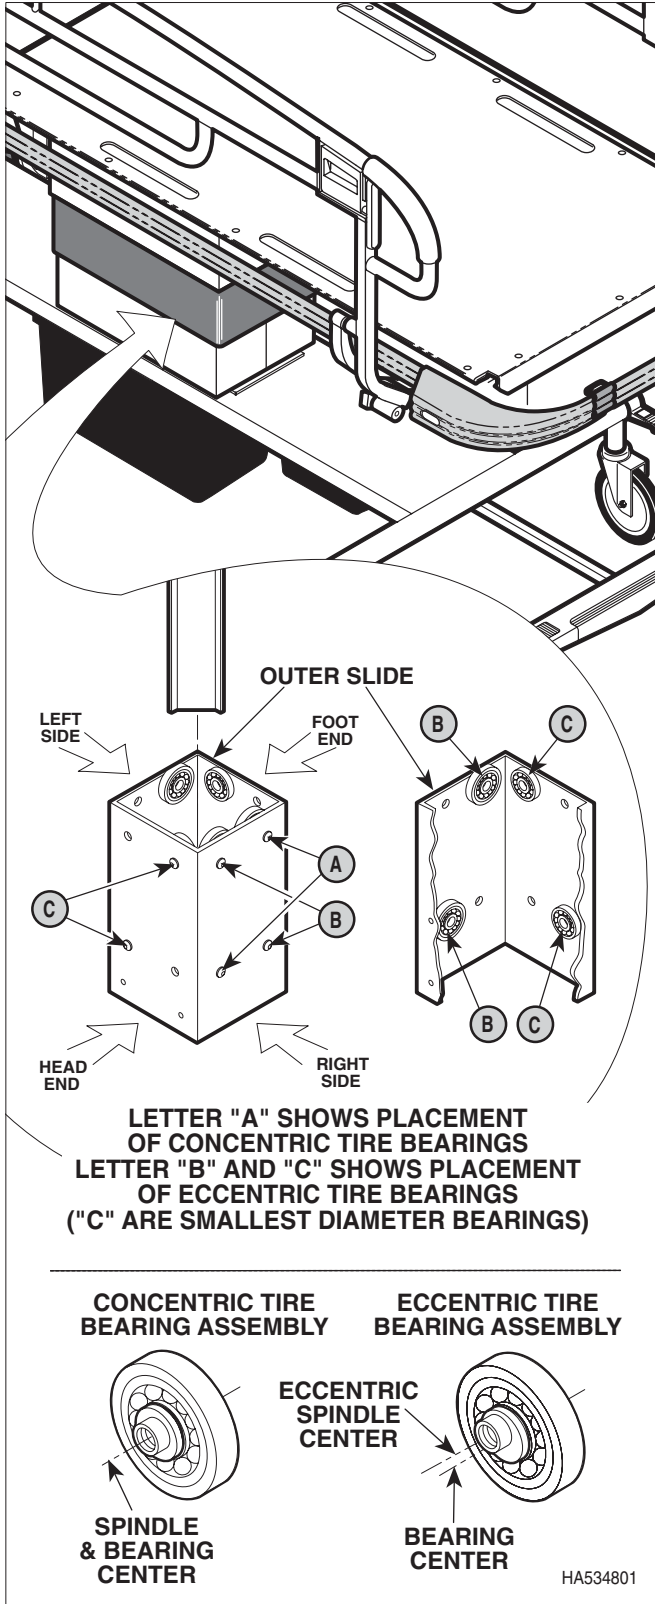

Figure 4-33. Tire Bearing Adjustment
- (1) There is no adjustment for concentric tire bearings (see letter "A" for location of concentric tire bearings). Their center spindle is concentric (round) and does not affect the tightness of the column. See Figure 4-33.